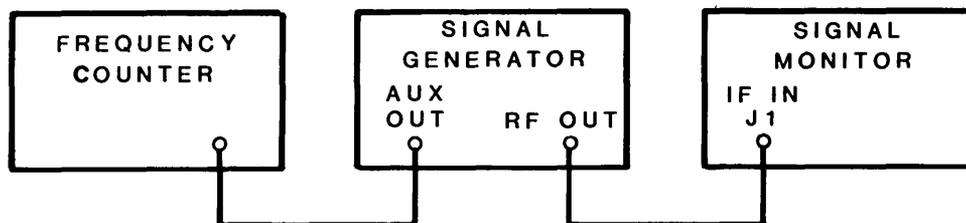

Figure 4-9. Test Setup, Sweep Oscillator and Frequency Linearity Adjustments
- (1) Connect the equipment as shown in **Figure 4-9**, and set the signal generator output to allow level until a marker is required.